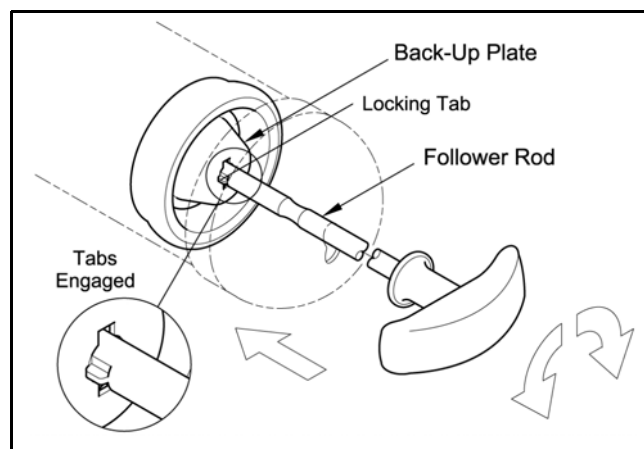

Figure 5 "Twist Lock" Follower
2. Pull follower rod out and engage first groove on follower rod with offset hole in end cap (Figure 5).
2. Pull back and rotate follower rod to engage locking tab in "twist-lock" slot on follower backup plate (Figure 5).
2. Pull out follower rod and engage locking tab in "twist-lock" slot on follower backup plate (Figure 5).